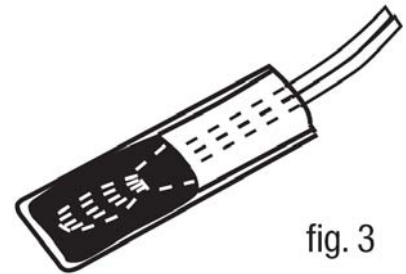

fig. 3
7. Slowly insert connection into sealing pack until it fits snugly against the opposite end. (fig. 3)